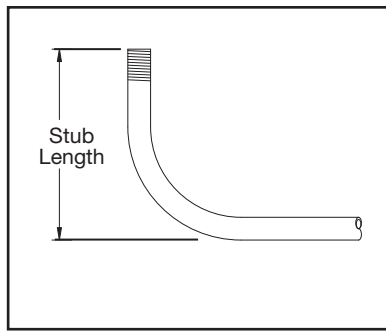
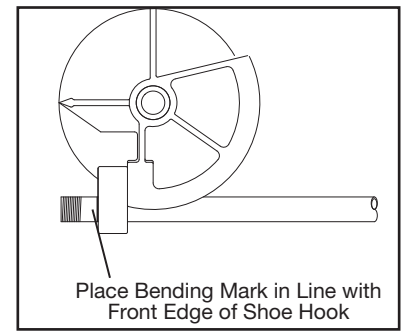

Figure 18a
Figure 18c
2. Measure and mark desired stub length on conduit ( stub length mark ). Subtract "Deduct Length" from this mark and make a second mark ( bending mark ). See Fig 18a and 18b. Place bending mark at front edge of shoe hook. See Figure 18c. Check Chart A, B, or C for springback of desired degree of bend. Bender should be advanced to this degree to obtain desired degree of bend.